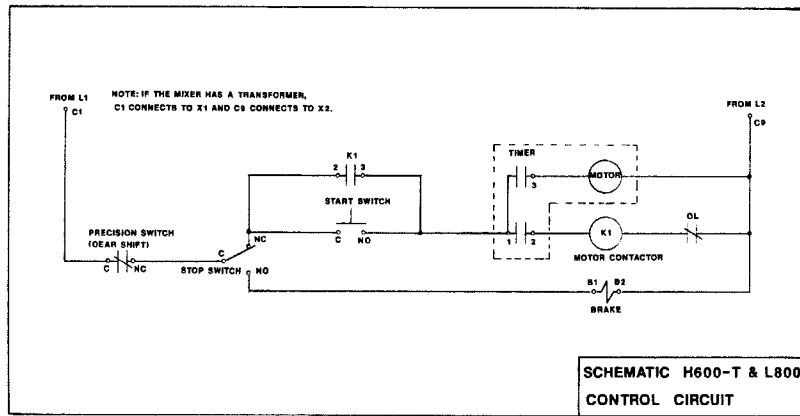

Fig. 7
- 4) Connect the other end of the four inch jumper lead, installed in step (3), to terminal C on the START SWITCH.
- 6) Connect the other end of the jumper lead installed in step (5), and lead #3 to terminal NO on the START SWITCH.
- 9) Install a lead between the contactor coil lead which was removed in step (8) and terminal #2 on the timer.
- E. Use Fig. 7 for future troubleshooting.
- 7) Connect the other end of the jumper lead installed in step (6) to terminal #1 on the timer.
- 11) Use the line splice (P/N 65890-85 from the kit) and connect the timer motor lead to the lead installed in step (10).
- 14) Connect together the black lead removed in step (13) and the contactor coil lead which was removed in step (12). Tape the connection.
E. Use Fig. 7 for future troubleshooting.
- 14) Connect together the white lead removed in step (13) and the contactor coil lead which was removed in step (12). Tape the connection.